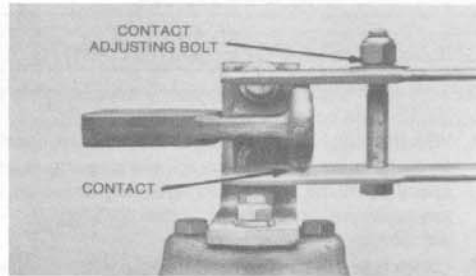

Figure 6 — Contact end shown fully closed.
2. To increase the contact pressure, tighten the contact adjusting bolt (Figure 6). Be cautious about applying too much pressure as it may cause galling of the silver contact surfaces.
3. To decrease the contact pressure, loosen the contact adjusting bolt (Figure 6). Too little pressure on the contact will cause burning and pitting of the silver contacts.